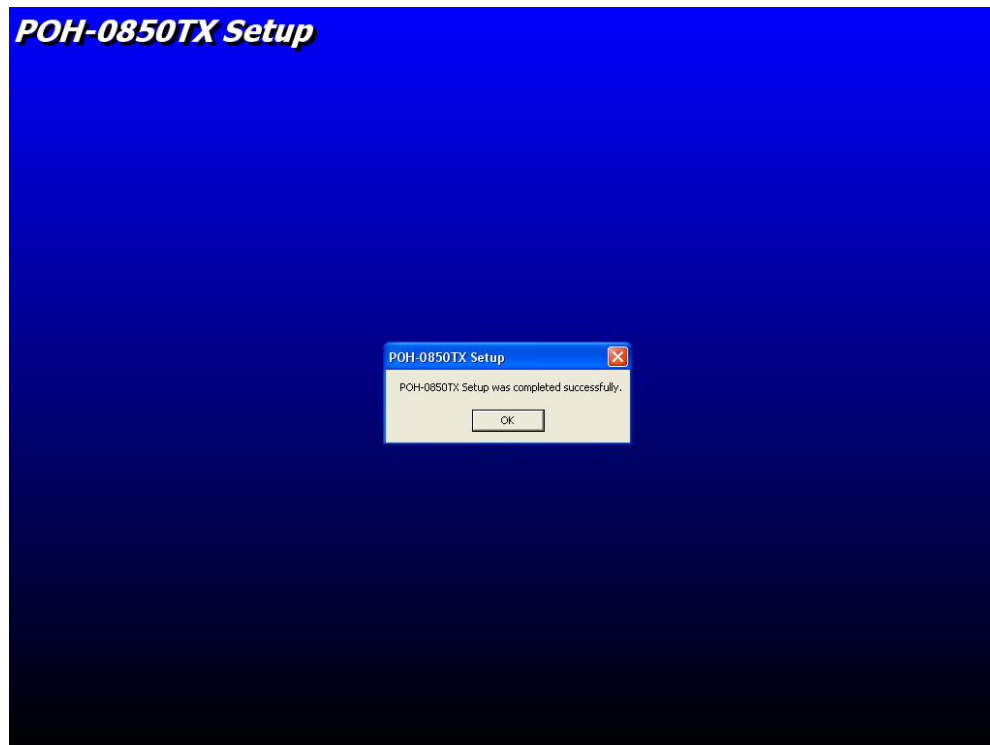

Figure 3-3
6. When installation finishes, click "OK" button to finish. See Figure 3-3.